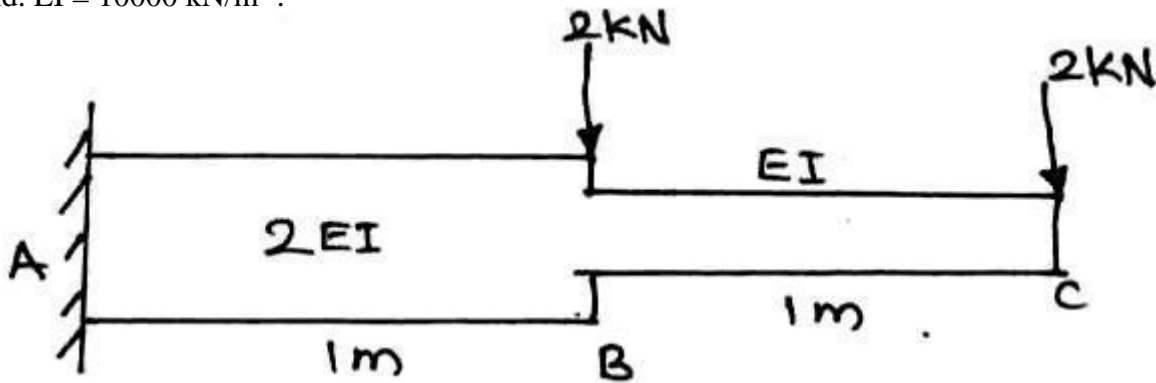

Fig.3
2. For the cantilever beam shown in Fig.3. Find the deflection and slope at the free end. $EI = 10000 \text{ kN/m}^2$.